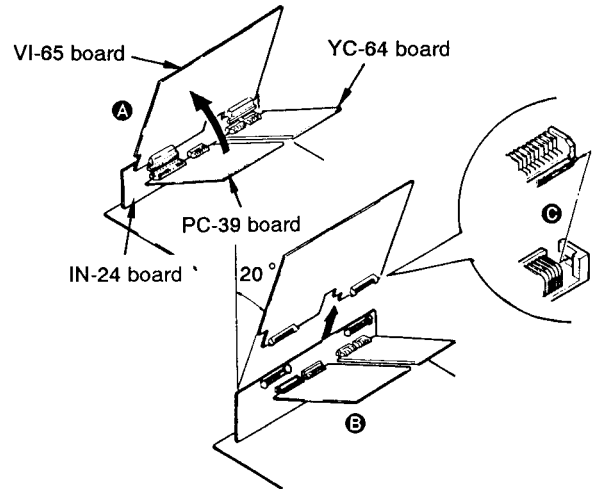

Fig. 3-3.
- 1) Stand the VI-65 board as shown in Fig. 3-3. **A**.
- 2) As shown in Fig. 3-3. **B**, pull out the VI-65 board at a 20° angle from the IN-24 board.
- 4) To reinstall the board, align the connectors as shown in Fig. 3-3. **C**, then insert the board.